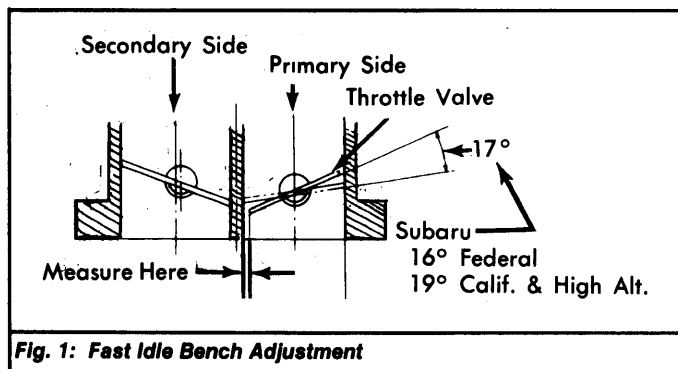

Fig. 1: Fast Idle Bench Adjustment
**2)** To adjust, turn fast idle adjusting screw until clearance is .039-.045" (1-1.14 mm) for automatic transmission equipped vehicles or .029-.034" (.73-.87 mm) for manual transmission equipped vehicles. See Fig. 1.